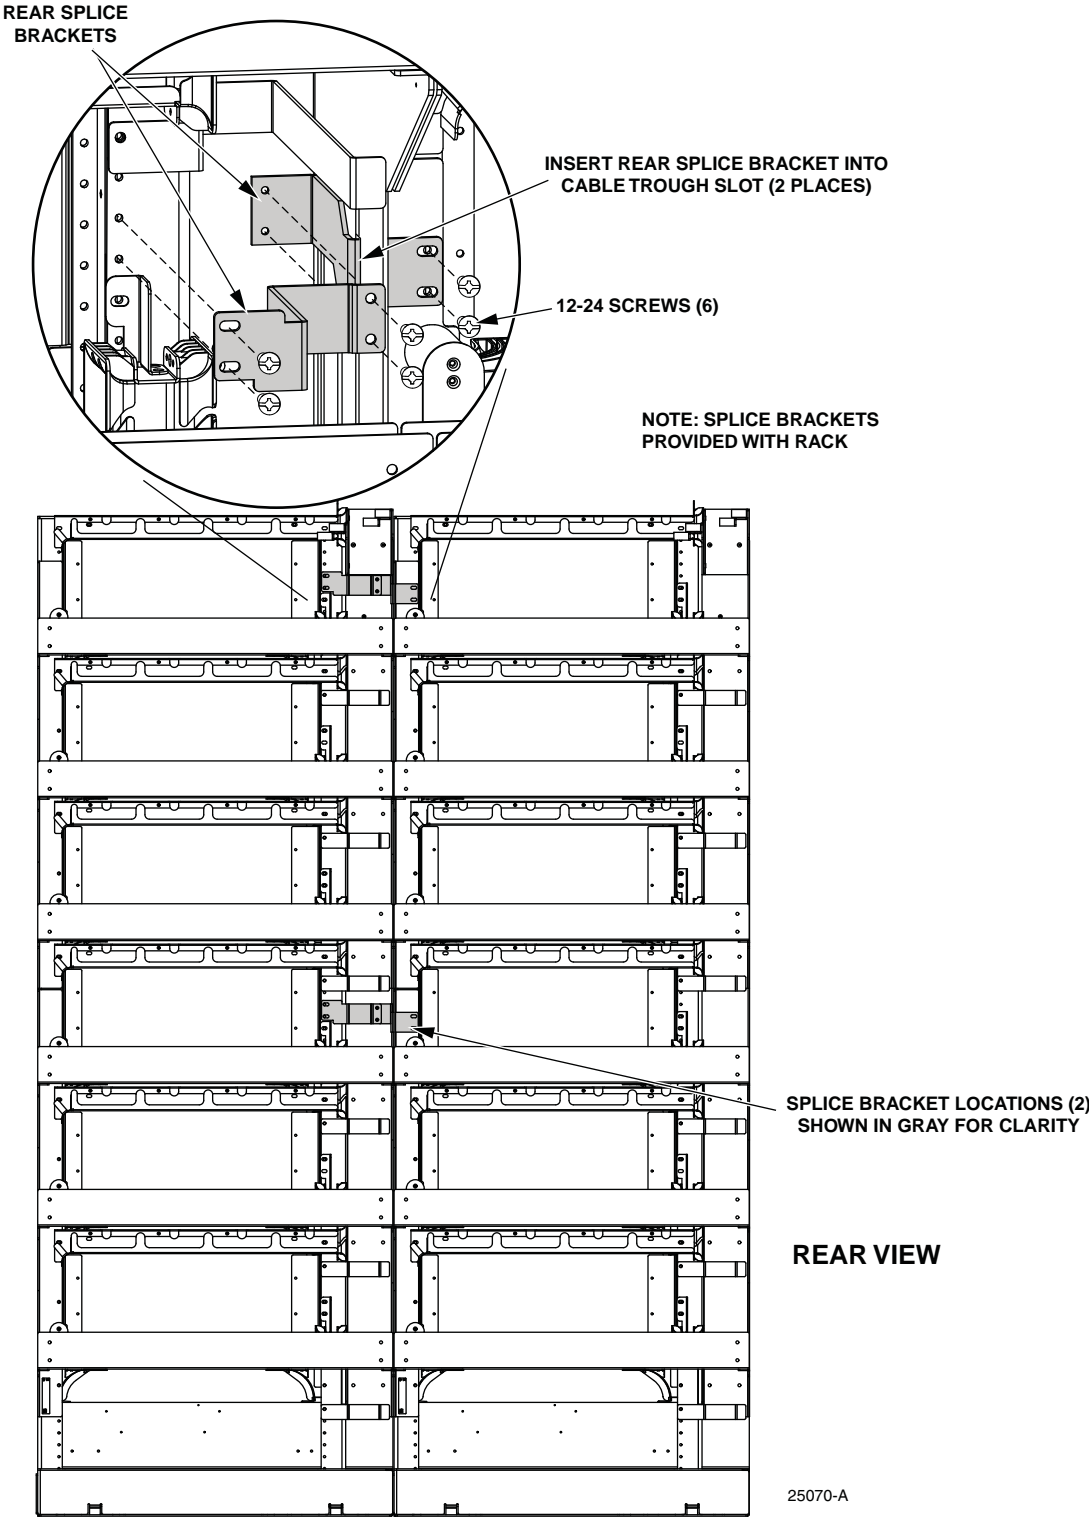

Figure 24. Installing Rear Splice Brackets
3. Install rear splice brackets. There are two sets of two brackets installed in the two locations shown in Figure 24.